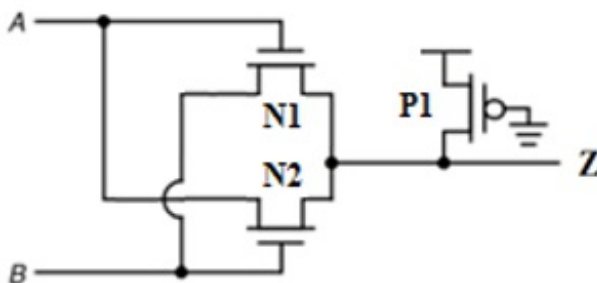

Fig. 1C
- 1A) Discuss the operation of any two different forms of pull-up for an NMOS inverter circuit. Draw transfer characteristics for these different forms of pull-up. Compare the relative merits of these different forms of pull-up. (4)
- 1B) With neat diagrams, explain the working of the MOS capacitor. Briefly illustrate the fabrication steps of a MOS Capacitor. (3)
- 1C) Refer the pass-transistor based logic network given in **FIG 1C**. (3)